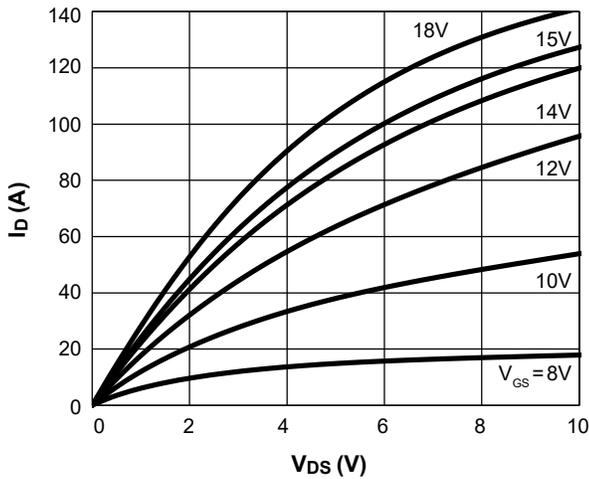

Figure 1. On-Region Characteristics $T_J = 25^\circ\text{C}$
- I. The static characteristics in Figures 1 to 8 are obtained using <300ms pulses, duty cycle 0.5% max.